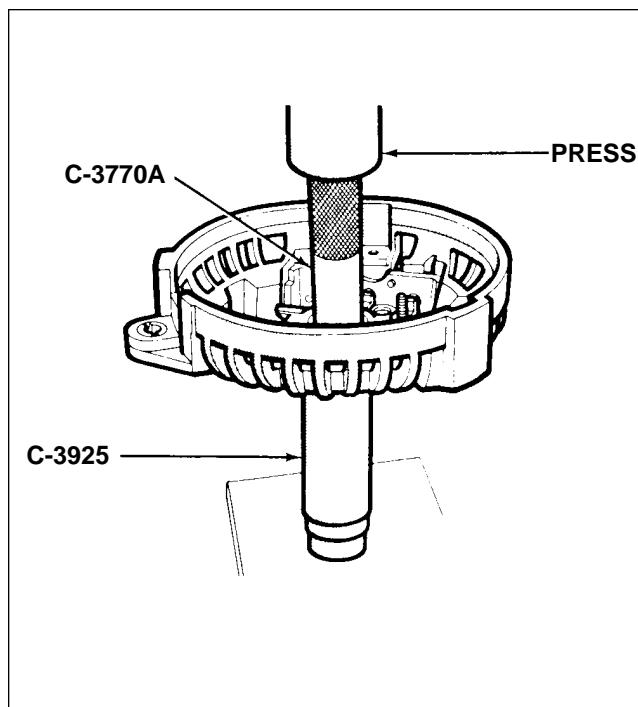

Figure 24-29. Removal of Chrysler Alternator
- Needle bearing in rectifier end shield is a press fit. If necessary to remove rectifier end shield needle bearing, protect end shield by supporting shield with tool C-3925 when pressing the bearing out with tool C-3770A. (Refer to figure 24-29.)